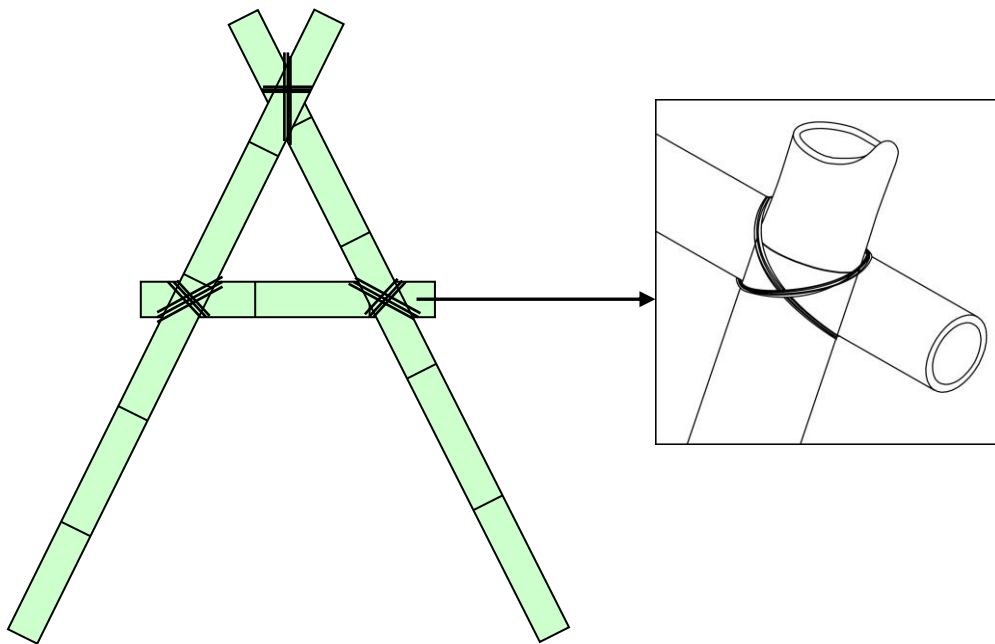

Figure 2: Jointing by binding wire
- ◆ Repeat the process in the other diagonal direction (refer to figure 2)